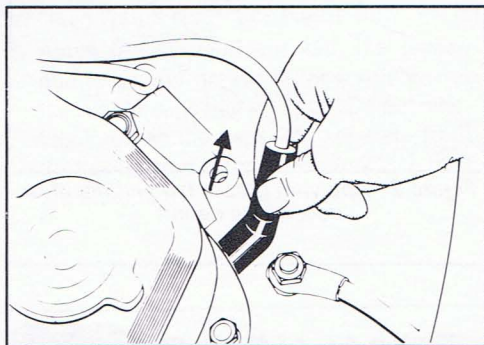

Figure 1 - Removing spark plug wire
2. Remove the first spark plug wire by pulling on the boot, not on the wire itself. (If the spark plug boot is stuck to the spark plug a slight twisting motion on the boot will assist in breaking loose the boot). See Figure 1. Pulling on the wire may separate the carbon center, causing the wire to fail, and the engine to misfire. This can happen with no evidence of damage on the outer insulation. In case of wire damage, it is necessary to replace the complete wire, since a satisfactory repair cannot be made. Also, pull the boot by hand only—never use pliers.